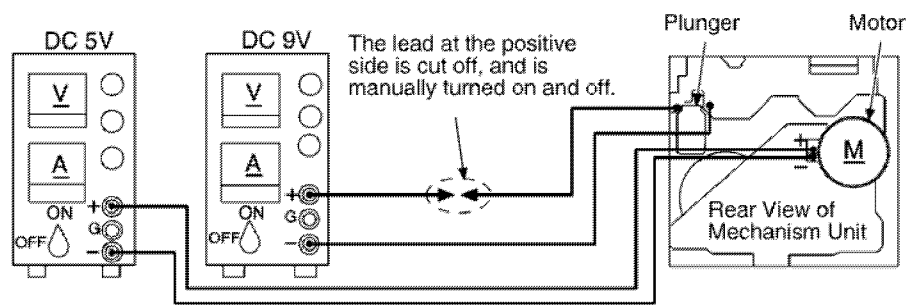

Fig. 5
2. Supply DC5V to MOTOR. (→ MOTOR rotates.) (Cf. Fig. 5)
4. Supply DC9V to the plunger, and turn the power ON and OFF. (→ Power +PL, -PL) (Cf. Fig. 5)